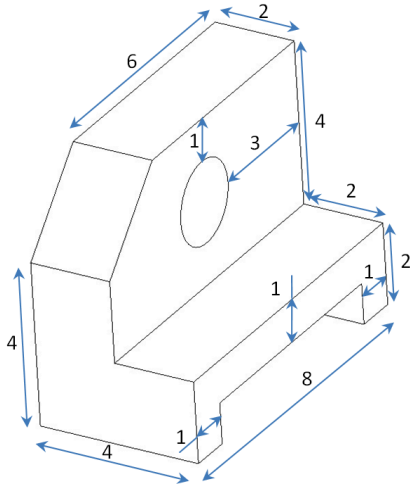

Figure 1
Part 2: Imagine that a particular mechanical device contains three different steel alloy components, shown in isometric view in Figures 1, 2 and 3. In order to protect these components from corrosion, the components are to be covered with an expensive coating. To determine the amount and cost of the coating, the total surface area must be calculated first. Using the dimensions and figures shown below, calculate the surface area and volume for each component.
2. Calculate the total volume (cm^3) and the total surface area (cm^2) of the parts shown in Figures 1, 2 & 3 and include them in the results section of your report (*supporting calculations should be attached in an appendix*). Report each value to four decimal places.
- report the surface areas and volumes of the components shown in Figs. 1, 2 & 3;